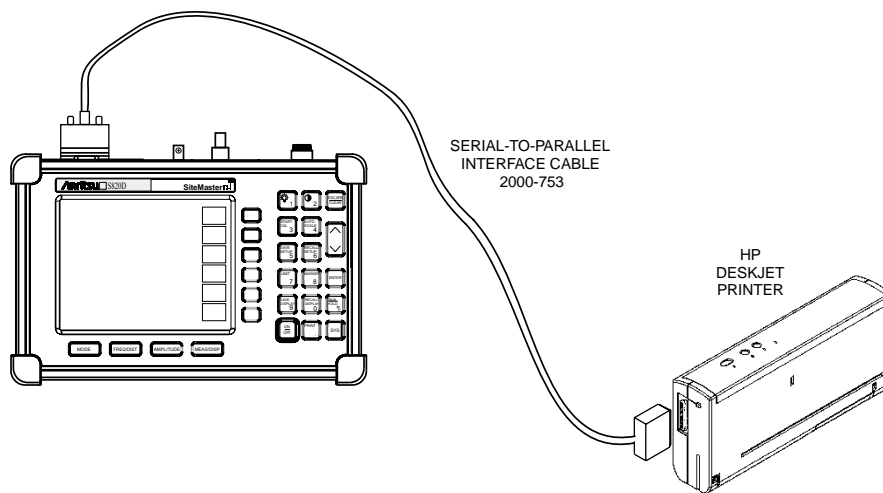

Figure 3-4. Site Master Printer Setup
- Step 4.** Connect the printer as shown in Figure 3-4.